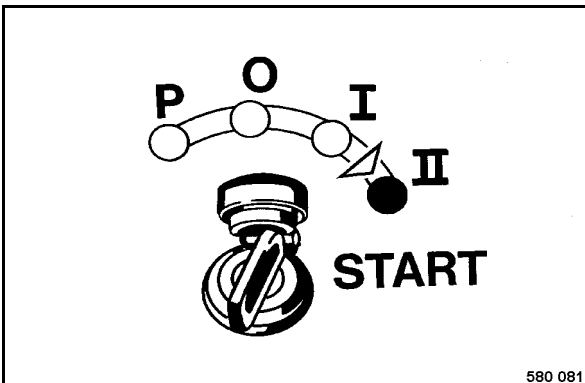

Fig. 91
- Turn the ignition key (Fig. 91) to position „II engine start.